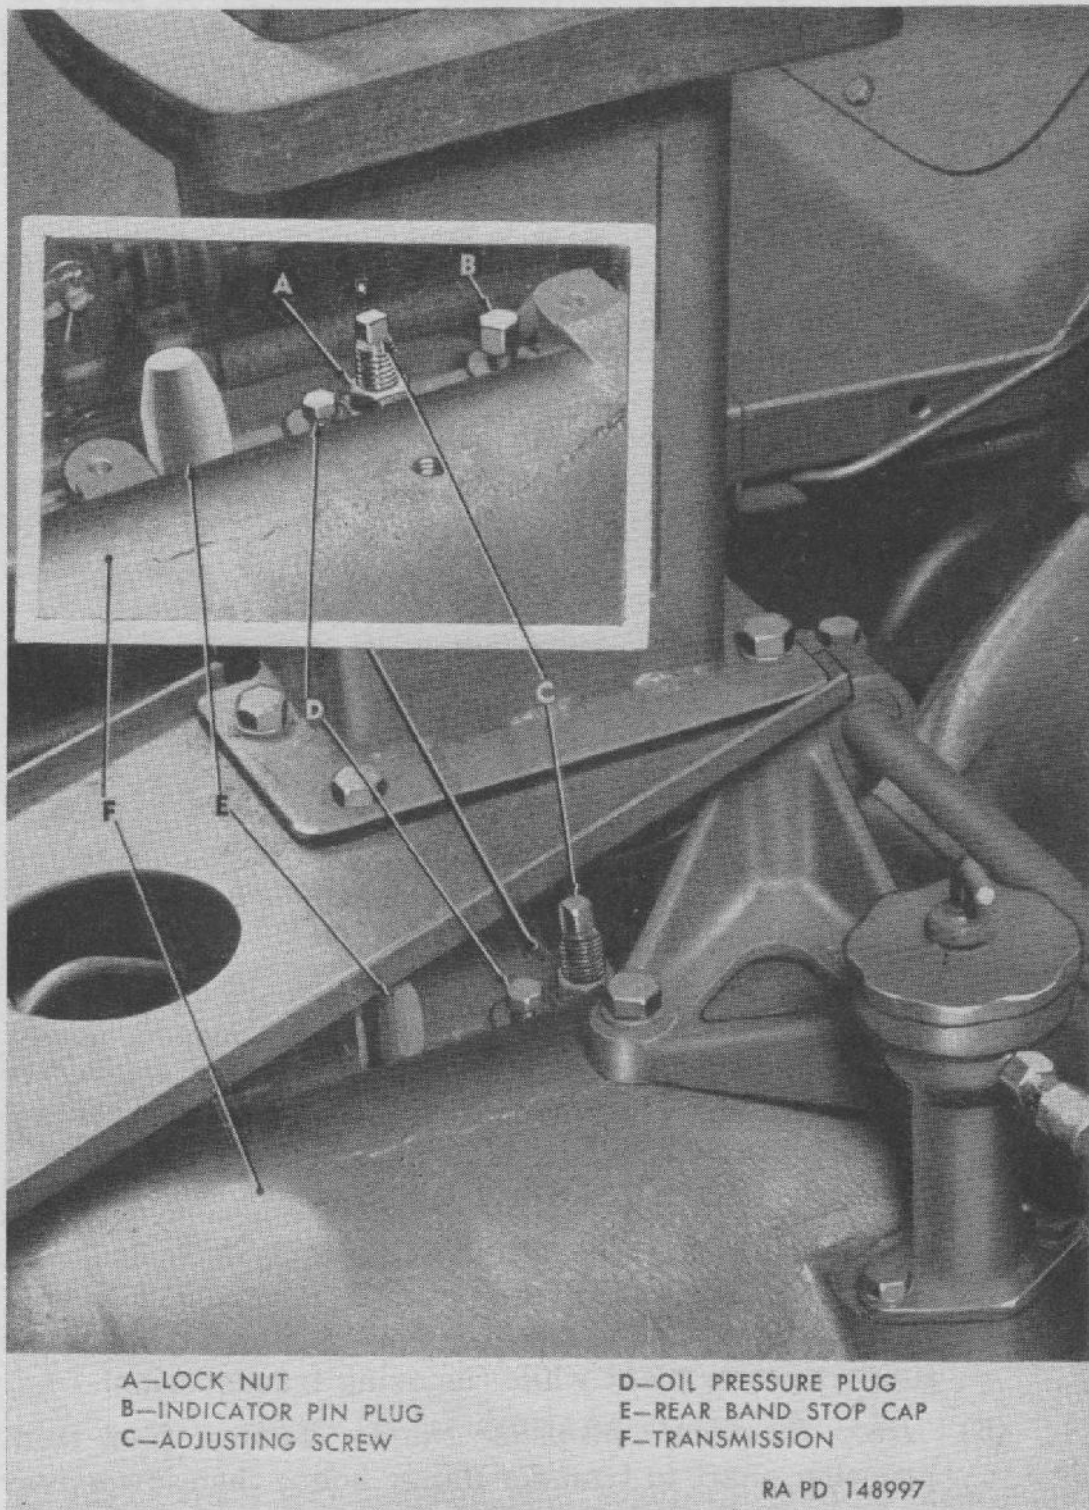

Figure 104. Front band adjustment.
- (1) Clean indicator pin plug (B, fig. 104) and adjacent surface of transmission; then run engine at idling speed, with control lever in F-1 HIGH RANGE position.
- (2) Unscrew indicator pin plug (B, fig. 104). Indicator pin should be flush with machined surface of case. Use straightedge to check pin position.
b. ADJUSTMENT (fig. 104).
- (1) Loosen adjusting screw lock nut (A).
- (2) Turn adjusting screw (C) until indicator pin is exactly flush with machined surface of case.
- (3) While holding adjusting screw stationary, tighten lock nut firmly; then install indicator pin plug (B).